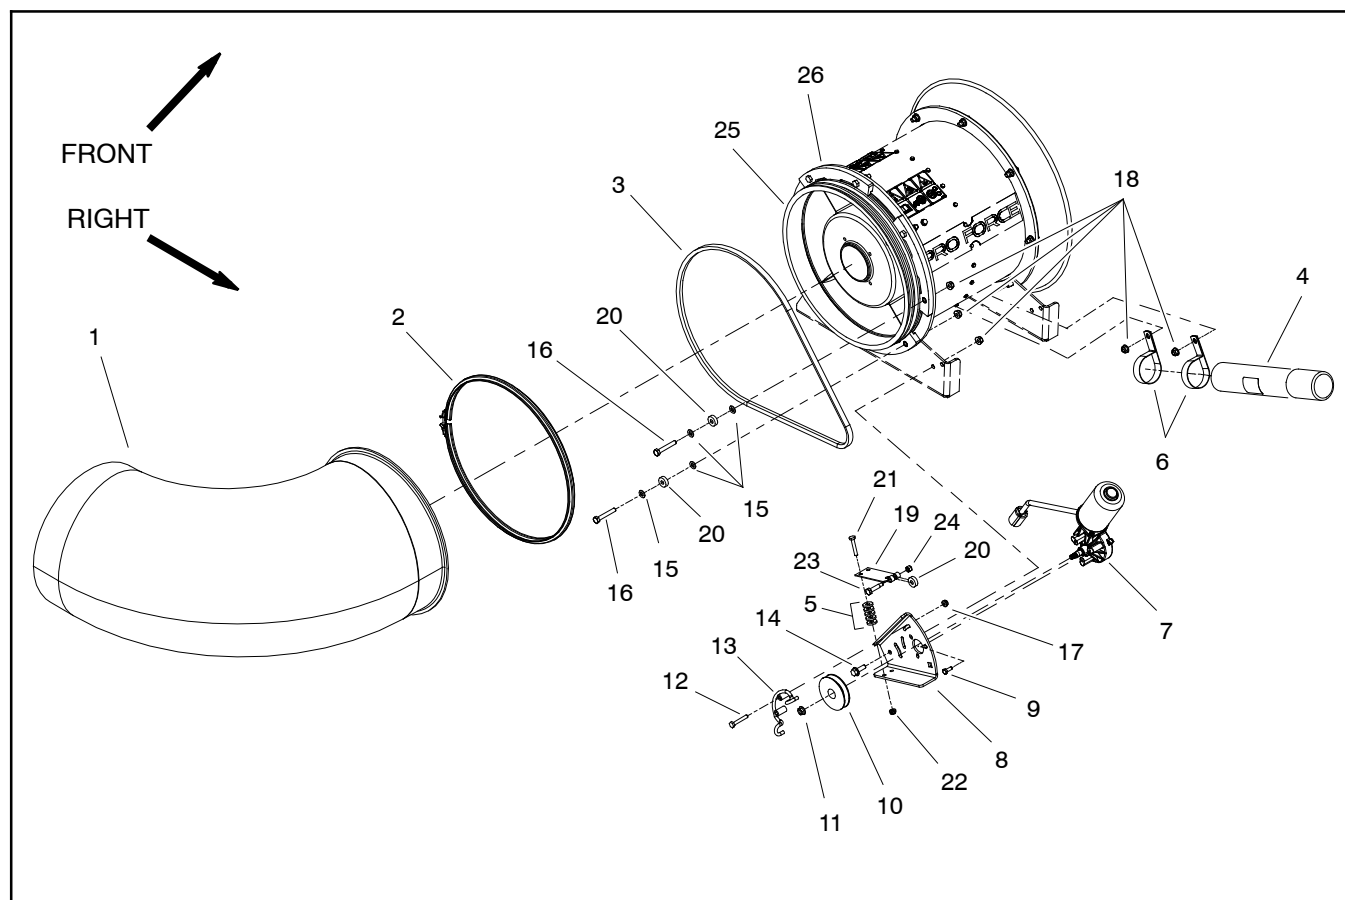
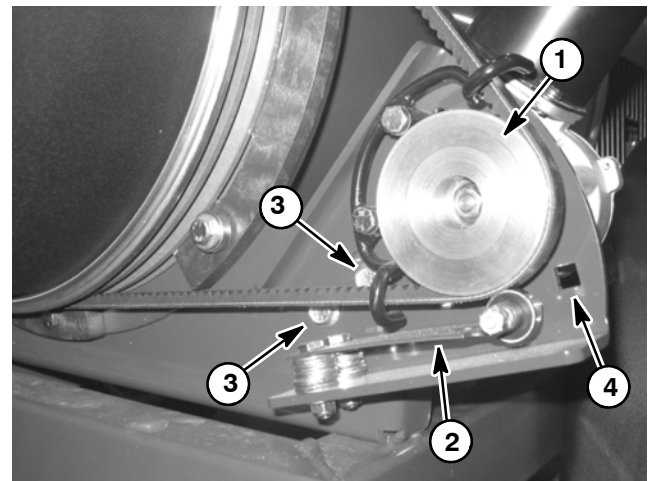

Figure 25
Figure 26
**Removal (Fig. 25)**
5. Remove two (2) cap screws (item 21) and flange nuts (item 22) that secure leaf spring to motor bracket. Remove leaf spring with bearing and flat washers (item 5) from bracket.
6. Loosen two (2) flange head screws (item 14) and flange nuts that secure nozzle motor bracket to outer housing. Rotate bracket and nozzle motor to loosen v-belt.
7. Loosen cap screws and flange nuts that secure belt guard (item 13), route v-belt from behind guard and carefully remove belt from machine.
10. Support nozzle motor to prevent it from falling. Remove three (3) cap screws that secure nozzle motor to bracket. Remove nozzle motor from machine.
**Installation (Fig. 25)**
1. Position nozzle motor to bracket and secure with three (3) cap screws.
4. Place v-belt in nozzle pulley, route behind belt guard (item 13) and install belt on motor pulley.
5. With a 3/8 in. drive torque wrench, pivot the motor bracket from **200 to 230 in-lb (23 to 25 N-m)** to set v-belt tension (Fig. 26). **Do not over tension belt.** Hold bracket with the torque wrench and tighten two (2) flange head screws and flange nuts to secure belt adjustment and nozzle motor bracket.
7. Position leaf spring with bearing and flat washers (item 5) to bracket. Make sure that five (5) washers are placed between spring and bracket at each mounting hole. The bearing on the leaf spring should be centered on the outside of the v-belt. Secure leaf spring to motor bracket with two (2) cap screws (item 21) and flange nuts (item 22).